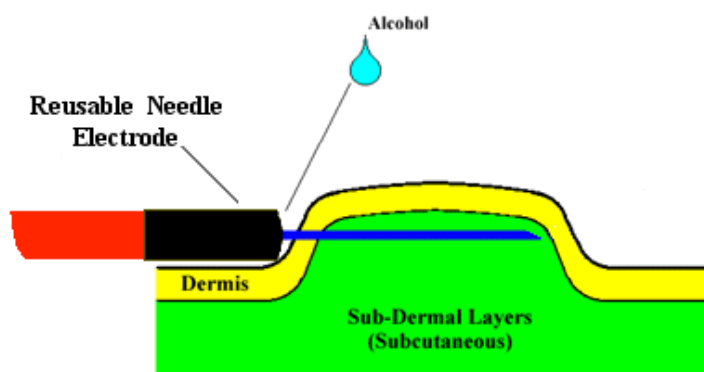

Figure 4. Electrode insertion using reusable needle electrode
1. Gently “bunch” the animal’s skin at the desired site, then insert the needle electrode subcutaneously into the skin fold. As opposed to the disposable needle method, ***do not push the needle out the other side of the bunched skin*** (Figure 4). However, you must still **MAKE SURE** that the needle goes **BELOW** the skin tissue to allow the needle to contact the sub-cutaneous “live tissue” under the skin!